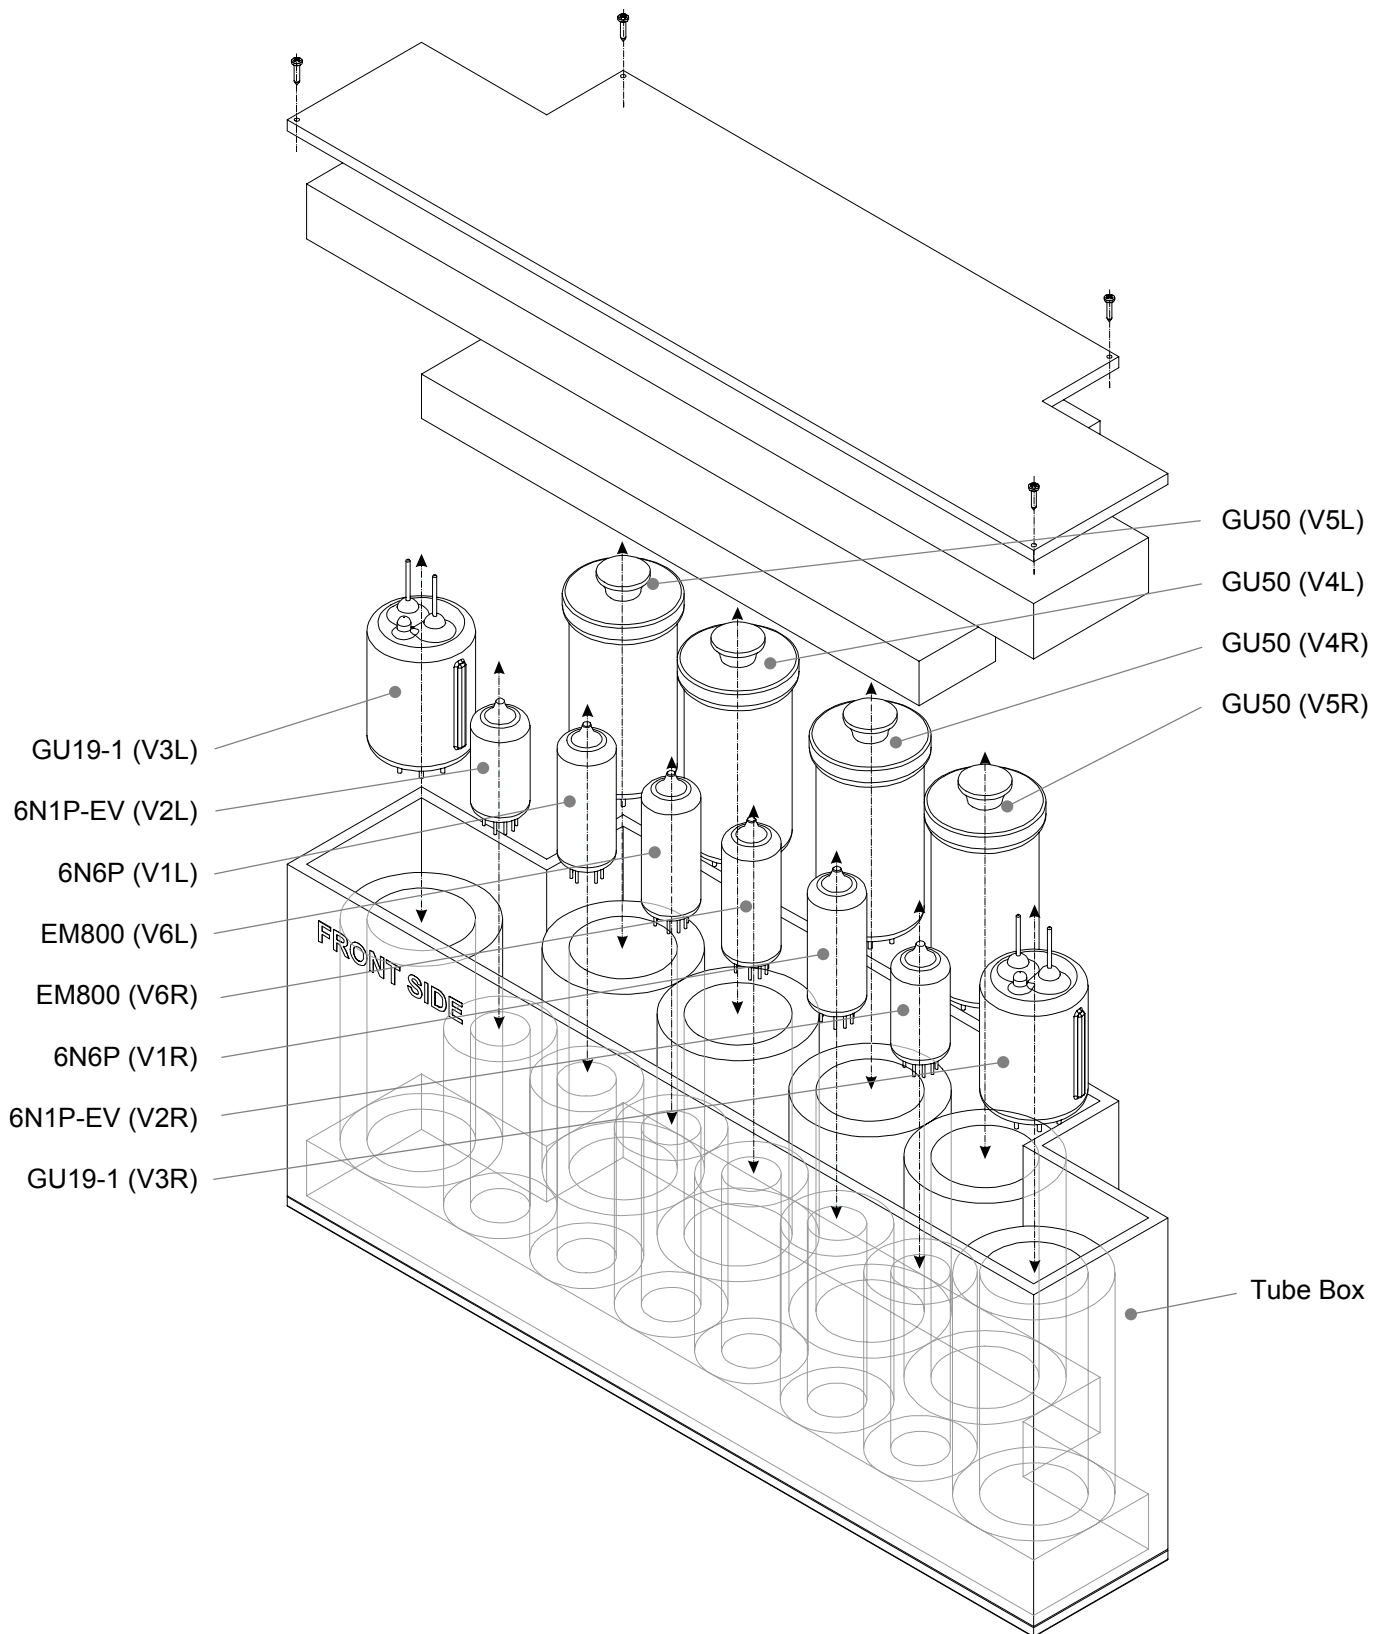

Figure 8
4. Orient the Tube Box so the "FRONT SIDE" is facing you. Using an appropriate screwdriver, remove four screws from the cover and open the Tube Box. Refer to figure 8.